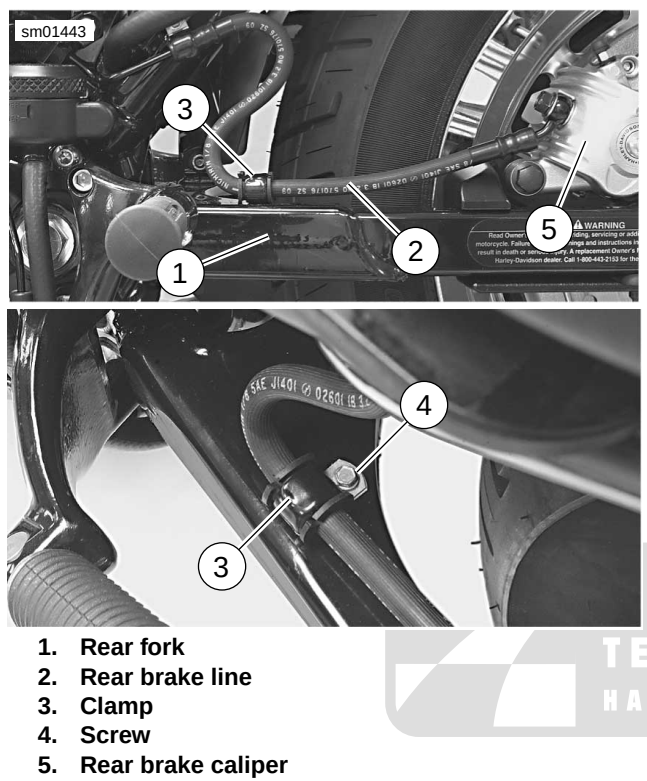

Figure 1-57. Rear Brake Line: XL Models
1. **XL Models:** See Figure 1-57. Remove screw (4) from clamp (3) on rear brake line (2).
- a. Tighten axle nut (4) to 95-105 ft-lbs (129-142 Nm). Install e-clip (1).
- b. **XL Models:** See Figure 1-57. Reposition clamp (3) on rear brake line (2) and secure clamp to rear fork (1) with screw (4). Tighten to 30-40 **in-lbs** (3.4-4.5 Nm).